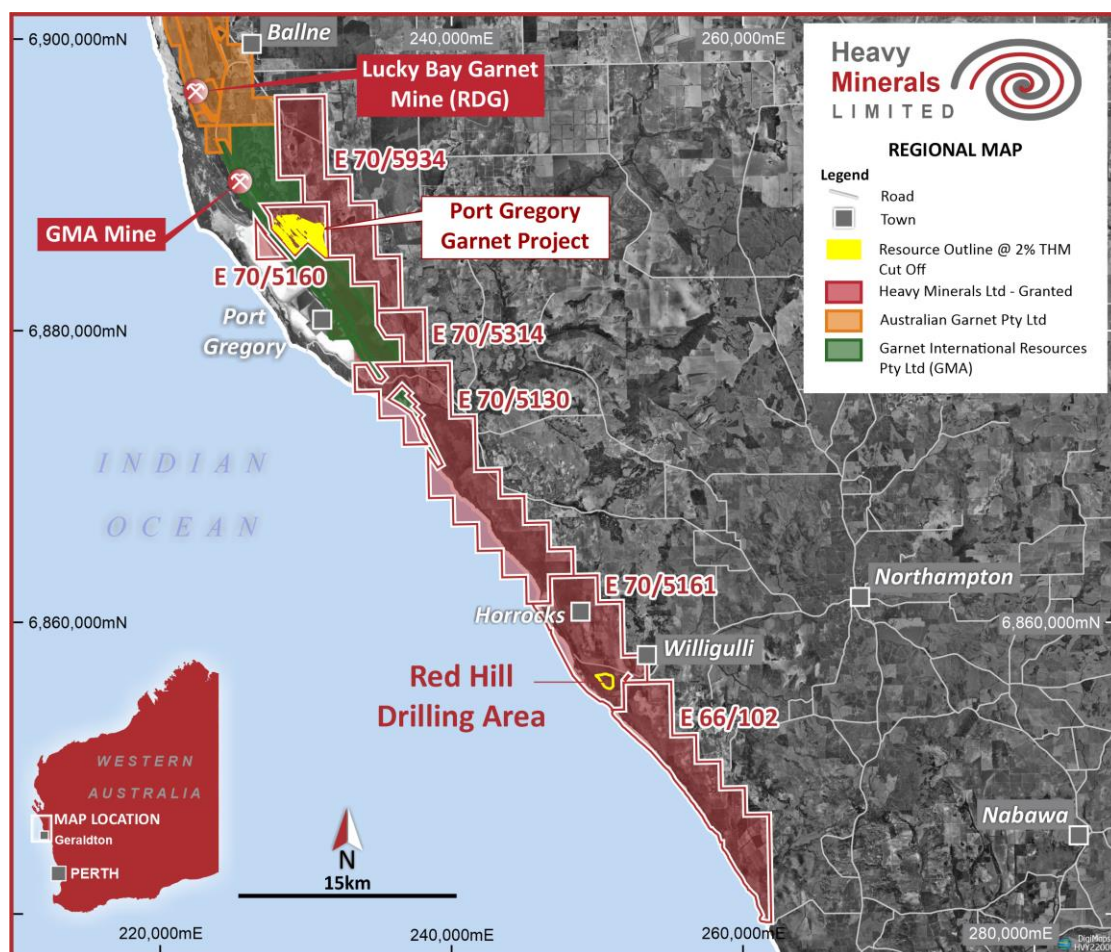

Figure 3: Project Locations - Red Hill and Port Gregory
- ✧ Garnet percentages in Heavy mineral fractions range from 65% - 80% which are very similar to the fractions observed at the Company's Port Gregory Project - located 33 km North of the Red Hill Project (Figure 3).